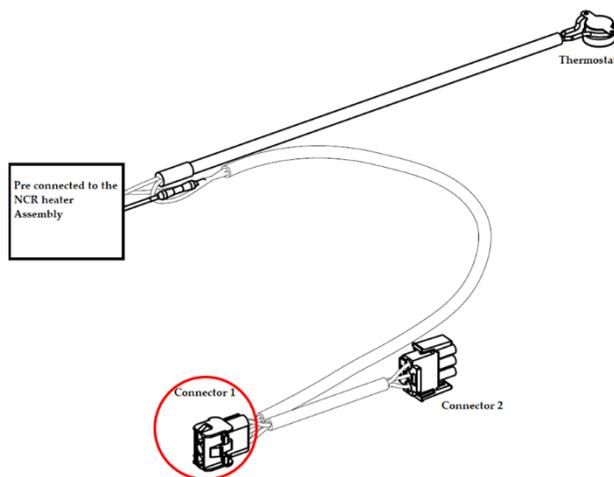

Figure 257
26) Disconnect the AC power cable that is attached to the power supply connector without the Invenco Link attached. See Figure 257 below.